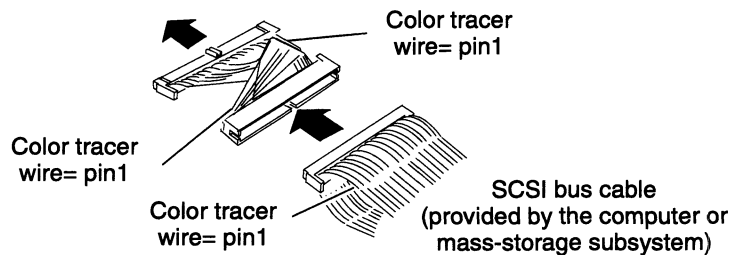

Figure 6 Using the optional SCSI bus adapter cable (005-035005) instead of twisting the SCSI bus cable
- ▶ If pin 1 of the SCSI bus cable does not line up with pin 1 of the drive's connector, do not twist the SCSI bus cable. Instead, use an optional adapter cable (005-035005). The adapter cable, which connects between the SCSI bus cable and the drive's connector (Figure 6), flips the position of pin 1 so that you do not need to twist the SCSI bus cable.